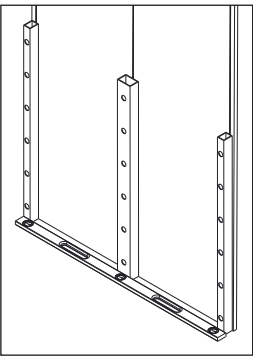
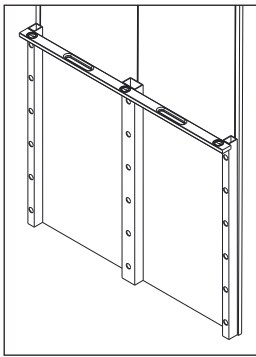
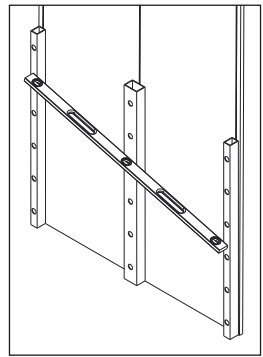

Figure 10: Check Flatness
Figure 11: Check Flatness
Figure 12: Check Flatness
7. Check the flatness at the top and bottom of the tubes (**Figure 10**), along the height of the tubes (**Figure 11**), and diagonally across the tubes (**Figure 12**), measuring across three tubes at a time, to ensure it does not exceed the max out of flat of $\frac{1}{16}$ " and there is no rocking. Each individual tube should be level within $\frac{1}{4}$ " from the lowest to highest point along the entire vertical length of the display tube(s). If the tube does not meet the level with a gap greater than $\frac{1}{4}$ " or if there is rocking, add shims to the affected tubes to bring them into spec.